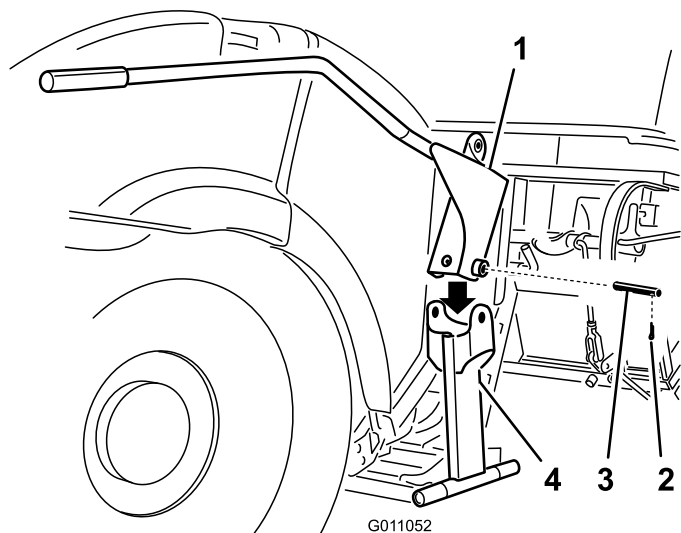

Figure 10
1. Position the handle assembly onto the handle mount assembly (Figure 10).
2. Secure the handle assembly with a pin and a roll pin (Figure 10).